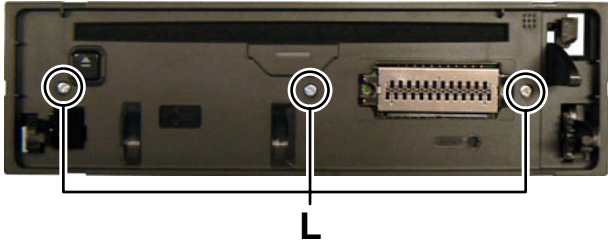

Fig.7
3.1.5 Removing the Function board (See Fig.7, 8)
- (1) Remove the three screws **L** attaching the connector bracket. (See Fig.7)
3.2.4 Removing the PHOTO BOARD assembly (See Fig.7 and 8)
- (1) From the bottom side of the top cover, release the projection **e** from the notch of the disc plate. (See Fig.7.)
- (2) Take out the disc plate in the direction of the arrow. (See Fig.7.)